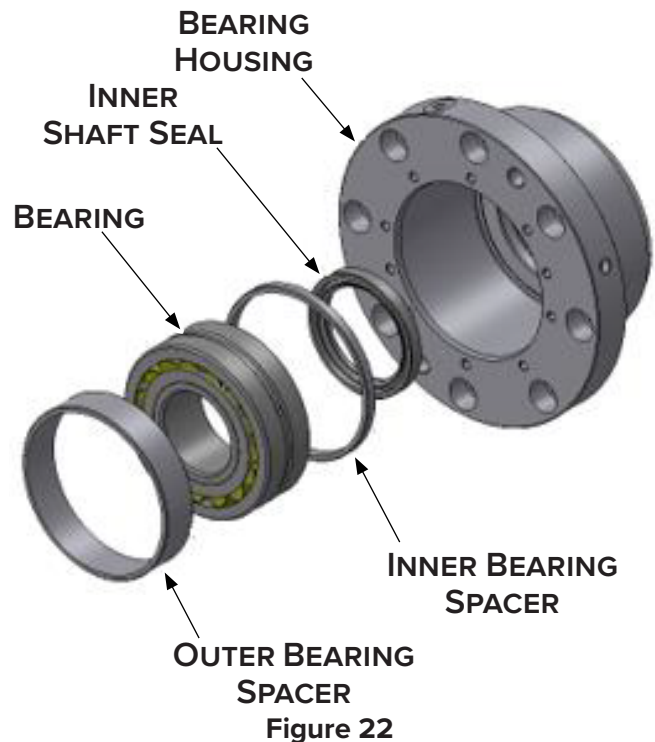

Figure 22
4. Insert the bearing spacers and bearing as shown in Figure 22.